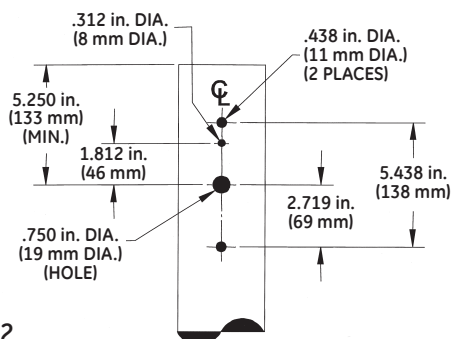

FIGURE 2
- Hole pattern on round pole shall be in accordance with figure 2.